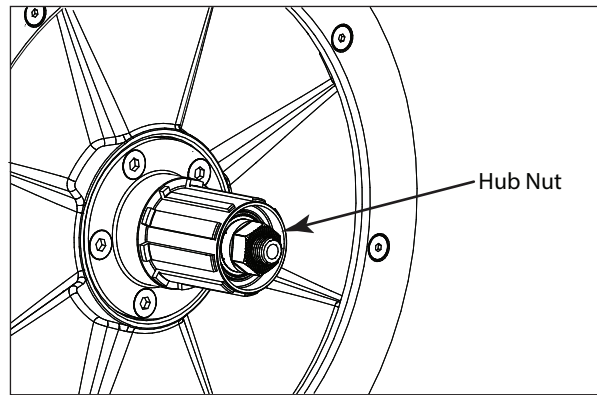

FIGURE 3.2
4. With the cassette removed, use the 16mm socket to remove the hub nut from the shaft at the center of the cassette adaptor. (Figure 3.2)